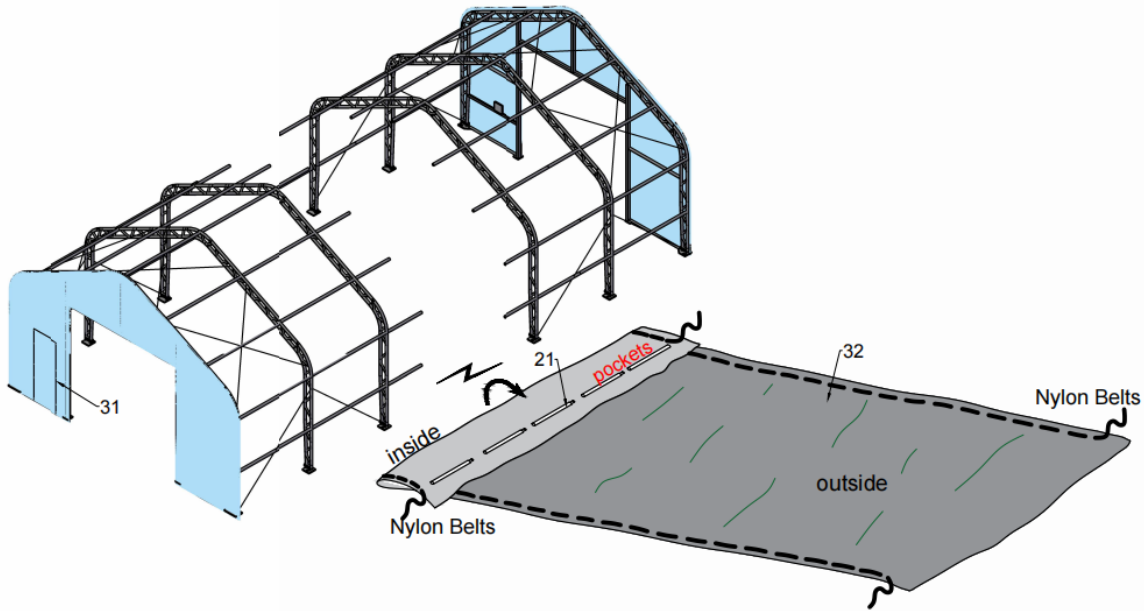

Figure 9
3. When roof cover is over top of frame assembly (see Figure 9&10), insert tensioning tubes (No.21) into pockets along both sides of roof cover, cut opening for nylon band for ratchet (No.26), find the nylon band over tube feed end into tie down to ratchet (No.6).